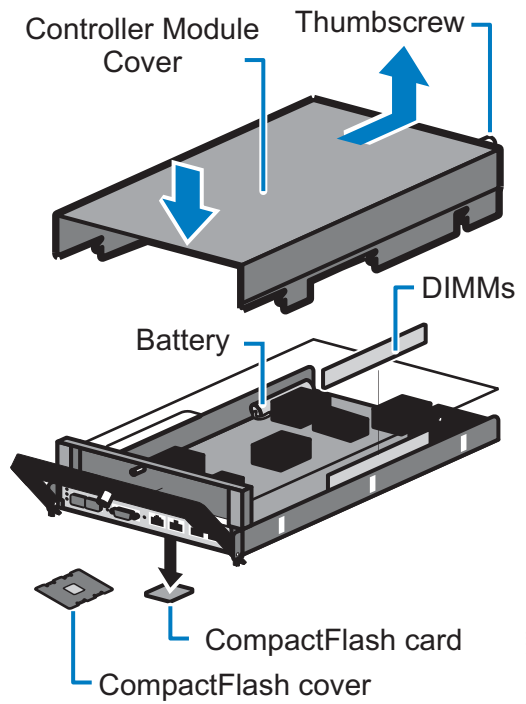
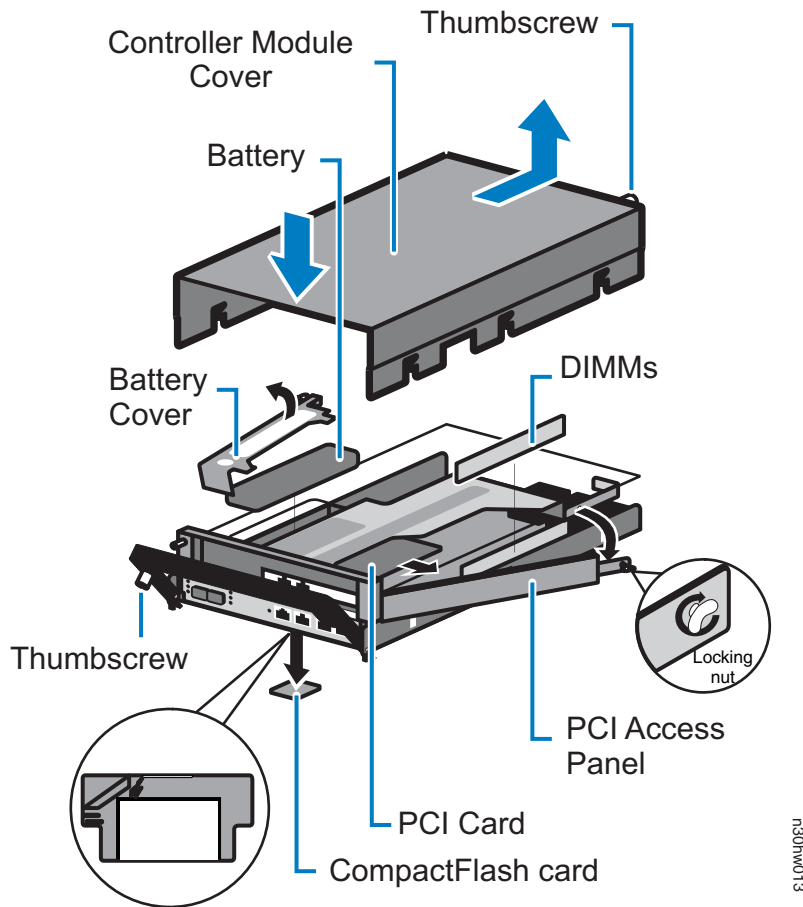

Figure 72. Opening the controller module - N3300 and N3400
Figure 73. Opening the controller module - N3600
7. Remove the controller module cover by completing the following substeps, using Figure 72 or Figure 73 on page 94 for reference: